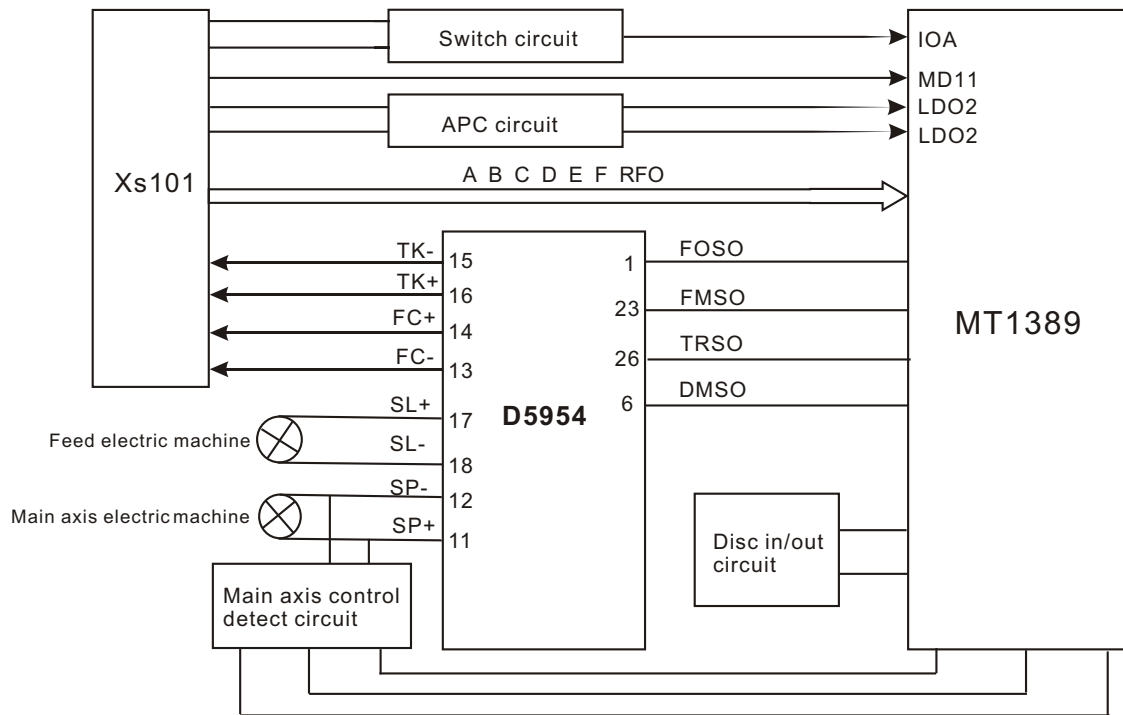

Figure 3.2.2.1 Servo circuit block diagram
1. Servo system of this player adopts SANYO loader + MTK decode solution (MT1389E+FLASH (16M) + SDRAM (64M)), and its servo circuit is mainly composed of front end signal processing, digital servo processing, digital signal processing IC MT1389E and drive circuit D5954, in which MT1389E is also the main composed part of decode circuit. Servo circuit block diagram is shown as in the following figure 3.2.2.1: